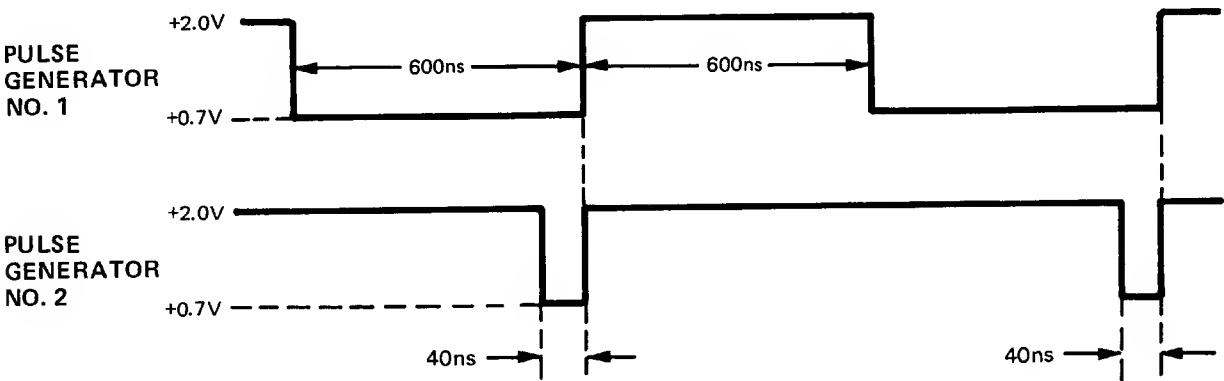

Figure 4-5. Data Lines Test Waveforms
- Adjust pulse generators for waveforms shown in figure 4-5.